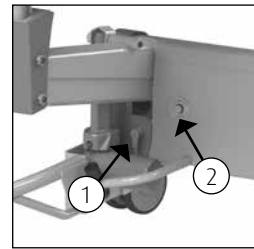

Figure 18 Emergency lowering button.
- Remove the plug from the manual control (1) (See figure 18).
- Press the emergency lowering button (2) (See figure 18).